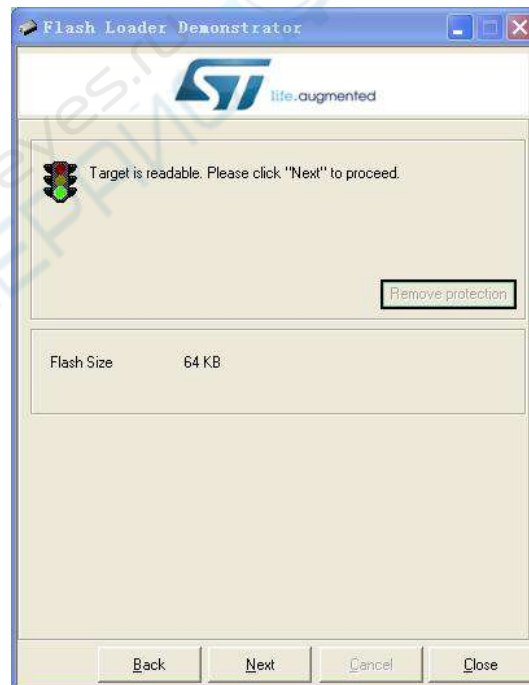

Fig. 6
- 4) If there is no error you should see Fig. 6. This is a temporary state showing that the PC has successfully detected bootloader and the flash memory is readable or not. If you have problem to enter this state you can try reset the MCU by pressing on the Reset button on PCB and try again. If that still doesn't work check connections and JP1/JP2. Otherwise click on Next to proceed to next step as shown in Fig. 7.